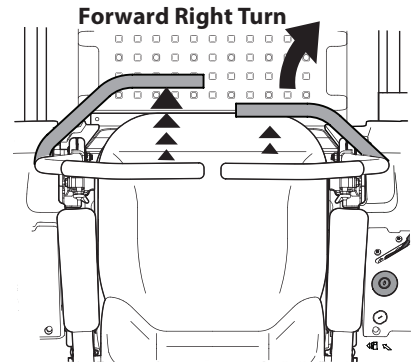

Figure 27
- To turn to the right, move the right drive control lever rearward of the left lever. See Figure 27.